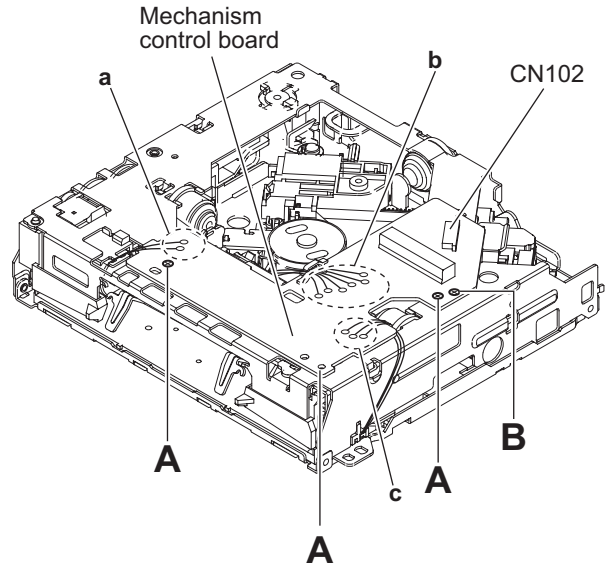

Fig.1
3.2.1 Removing the MECHANISM CONTROL BOARD assembly (See Fig.1 and 2)
- (1) From the bottom side of CD MECHANISM assembly, remove the solders from the soldered sections (**a**, **b** and **c**) on the MECHANISM CONTROL BOARD assembly. (See Fig.1.)
- (2) Remove the three screws **A** and one screw **B** attaching the MECHANISM CONTROL BOARD assembly. (See Fig.1.)